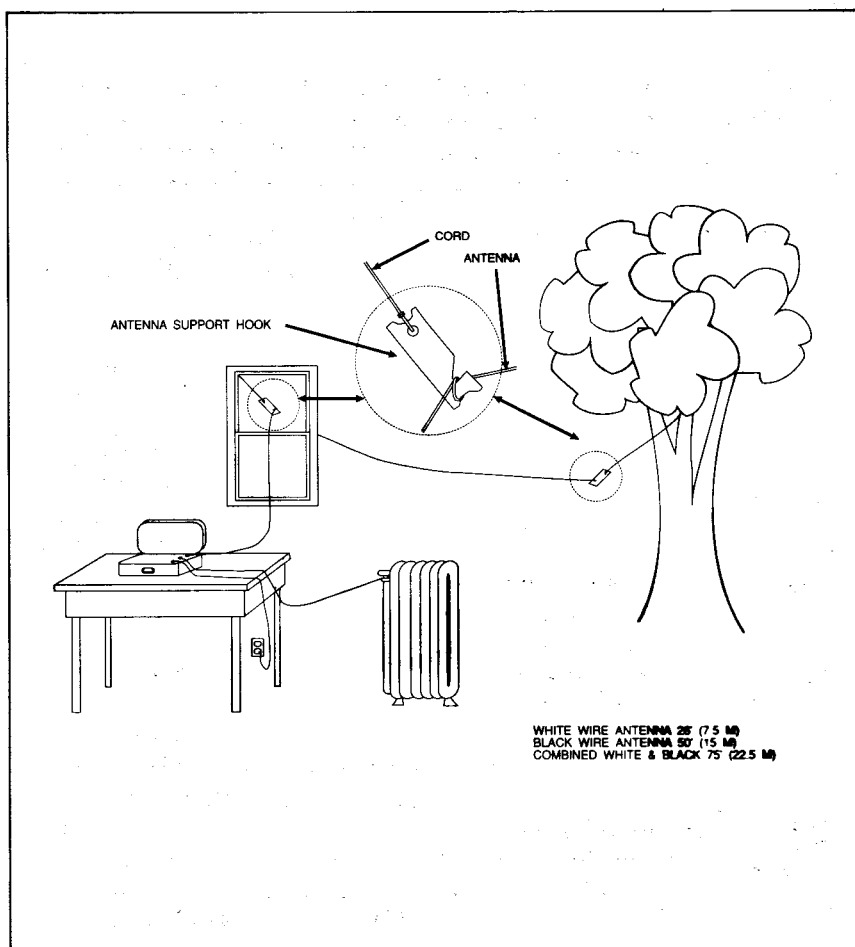

FIGURE 3-3.
- b) **Location**—Since the entire antenna radiates, it is important to keep it clear of all obstructions and as high as possible. Remember, the antenna radiates beginning at the connection on the transceiver. If the first part of the antenna is close to obstructions, much of the radiated energy will be absorbed. In a hotel room or building, the transceiver should be located right at the window, as a ferro-concrete building will provide almost complete shielding. See the transceiver installation example, Figure 3-3. It is also important to keep the antenna as far away as possible from noise sources, such as power lines.